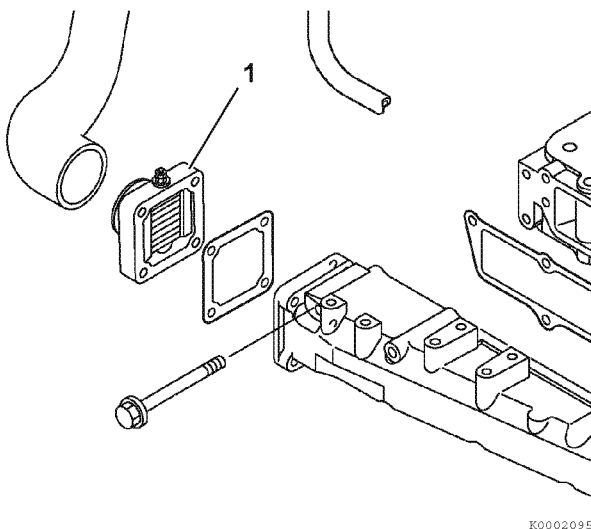

Figure 6-3
2. Disconnect the electrical wire from the intake air heater (1, **Figure 6-3**).